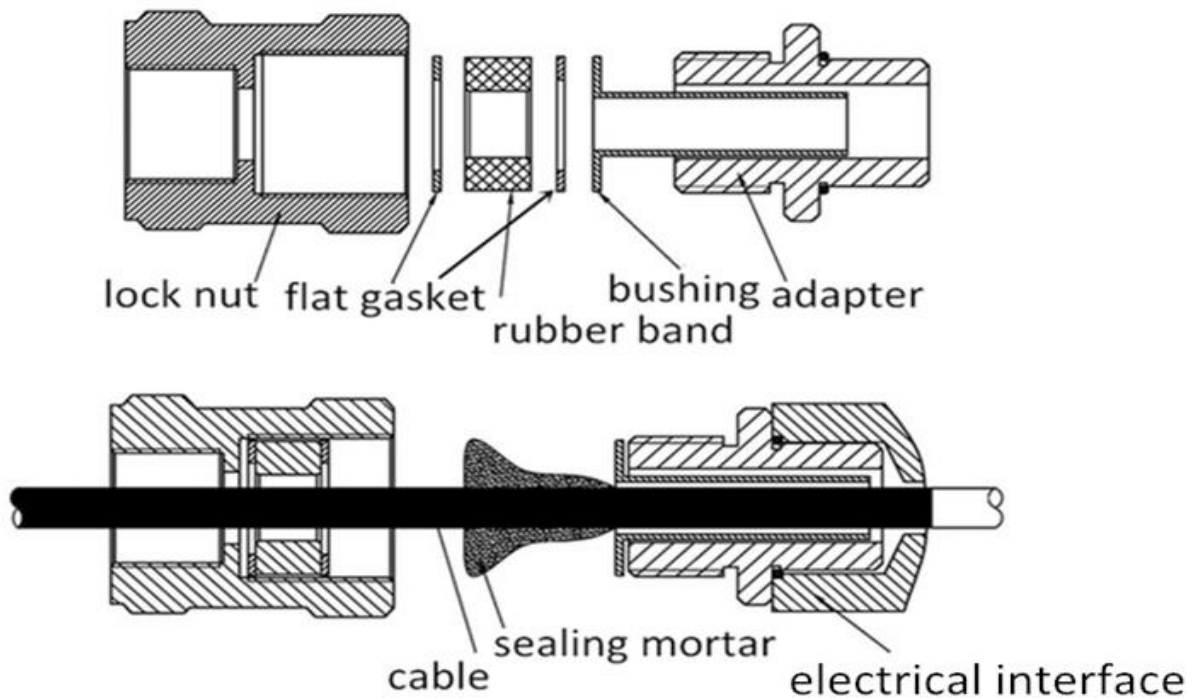

Fig. 7-2 Installation of Explosion Proof Stuffing Box Joint
- c. Apply explosion proof mortar. Be sure to press enough explosion proof mortar into the shape shown in Fig.7-2; then stuff into the interval between bushing inside and cable.